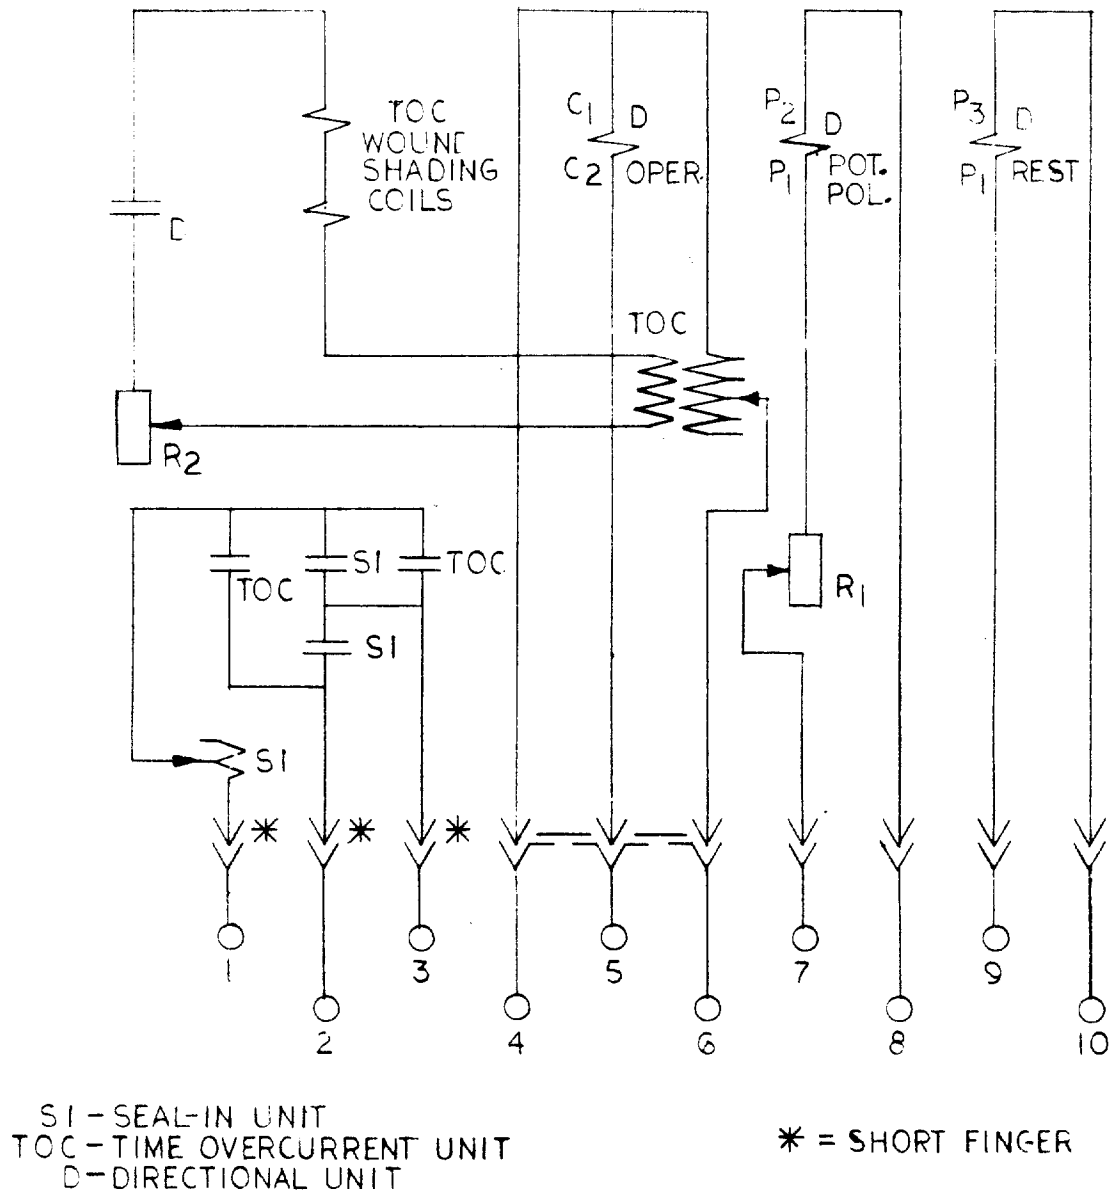

Figure 8 (0273A9196 [1]) Internal Connections for IBCV54M Relays (Front View)
- Figure 8 (0273A9196) Internal Connections for IBCV54M Relays (Front View)